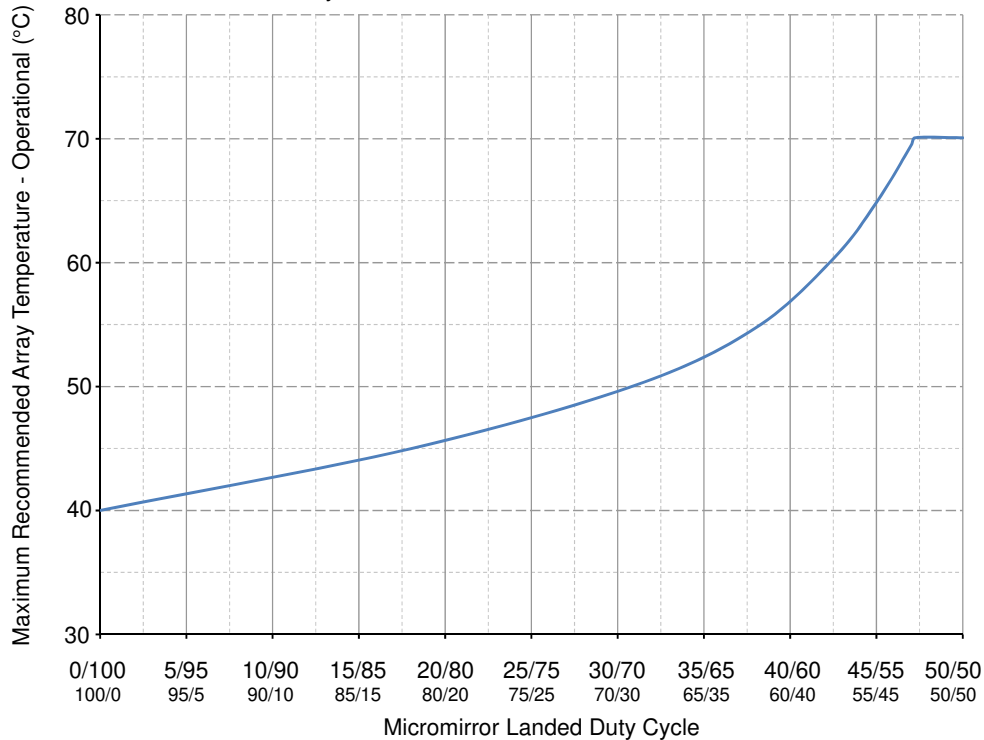

Figure 5-1. Maximum Recommended Array Temperature—Derating Curve
- (11) Per Figure 5-1, the maximum operational array temperature should be derated based on the micromirror landed duty cycle that the DMD experiences in the end application. Refer to the Section 6.8 for a definition of micromirror landed duty cycle.
- (12) Long-term is defined as the usable life of the device.
- (13) Short-term is the total cumulative time over the useful life of the device.
- (14) The locations of thermal test points TP2, TP3, TP4, and TP5 shown in the *DMD Thermal Test Points* are intended to measure the highest window edge temperature. For most applications, the locations shown are representative of the highest window edge temperature. If a particular application causes additional points on the window edge to be at a higher temperature, test points should be added to those locations.
- (15) Temperature delta is the highest difference between the ceramic test point 1 (TP1) and anywhere on the window edge as shown in *DMD Thermal Test Points*. The window test points TP2, TP3, TP4, and TP5 shown in *DMD Thermal Test Points* are intended to result in the worst case delta temperature. If a particular application causes another point on the window edge to result in a larger delta in temperature, that point should be used.
- (16) The average over time (including storage and operating) that the device is not in the 'elevated dew point temperature range'.
- (17) Exposure to dew point temperatures in the elevated range during storage and operation should be limited to less than a total cumulative time of CT_{ELR} .
- (18) The maximum marginal ray angle of the incoming illumination light at any point in the micromirror array, including pond of micromirrors (POM), should not exceed 55 degrees from the normal to the device array plane. The device window aperture has not necessarily been designed to allow incoming light at higher maximum angles to pass to the micromirrors, and the device performance has not been tested nor qualified at angles exceeding this. Illumination light exceeding this angle outside the micromirror array (including POM) will contribute to thermal limitations described in this document, and may negatively affect lifetime.
- (19) The maximum allowable optical power incident on the DMD is limited by the maximum optical power density for each wavelength range specified and the micromirror array temperature (T_{ARRAY}).
- (20) To calculate, see the *Micromirror Power Density Calculation*.